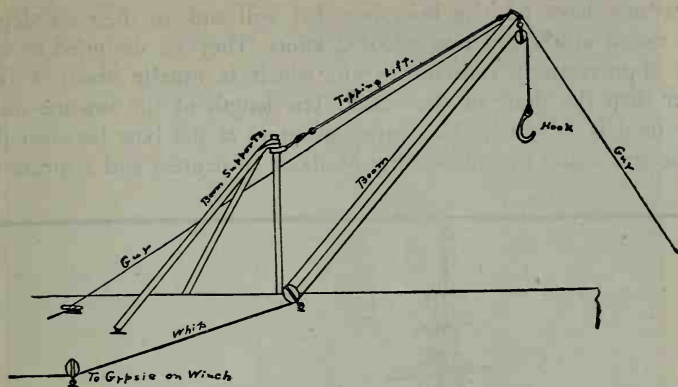

FIG. 48-5—Typical coaling boom.
**Rigging booms.**—Ships burning coal are all supplied with booms for hoisting coal bags aboard. These booms with their supports are placed where they will plumb the coal chutes near them. The number and type of coaling booms vary with each type of ship. Each coxswain must know how the booms on his ship are rigged, how the whip from each boom is led to the deck winch, and the proper lead for each boom guy (see Fig. 48-5).